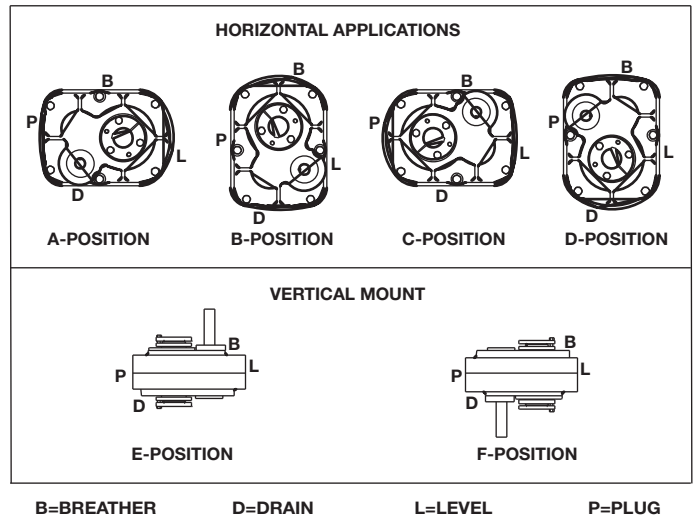

Figure 1 - Mounting Positions
2. Determine the running position of the reducer (Figure 1). Note that the reducer housing has been machined for pipe plugs around the sides of the reducer for horizontal applications and in each face for vertical applications. The plugs must be arranged relative to the running position as follows:
The running position of the reducer in a horizontal application is not limited to the four position shown in Figure 1. However, if running position is over 20° in position "B" and "D" or 5° in position "A" and "C" either way from sketches, the oil level plug cannot be safely used to check the oil level, unless during the checking the torque arm is disconnected and the reducer is swung to within 20° for position "B" or "D" or 5° for position "A" or "C" of the positions shown in Figure 1. Because of the many possible positions of the reducer, it may be necessary or desirable to make special adaptations using the lubrication fitting holes furnished along with other standard pipe fittings, stand pipes and oil level gauges as required.
- ① Oil quantity is approximate. Service with lubricant until oil runs out of oil level hole.
- ② Refer to Figure 1 for mounting positions.
- ③ US measure: 1 quart = 32 fluid ounces = .94646 liters.
- ④ Below 20 RPM output speed, oil level must be adjusted to reach the highest oil level plug (P). If reducer position is to vary from those shown in Figure 1, either more or less oil may be required. Consult Baldor Electric Company, Dodge Product Support, Greenville, South Carolina.